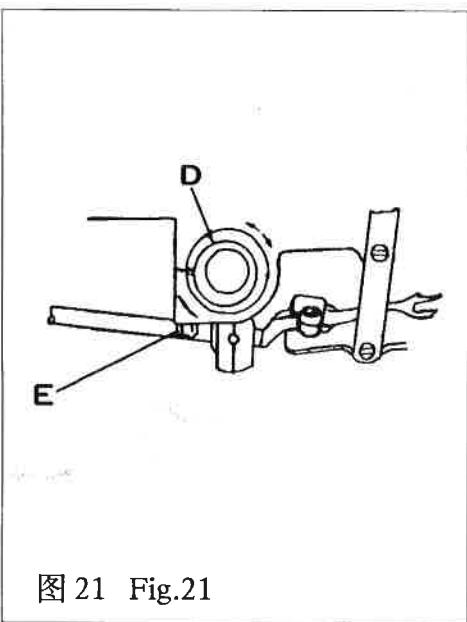

图 21 Fig.21
①旋松紧固螺栓“E”，左右移动偏心支承套“D”，达到上述要求时，旋紧紧固螺栓“E”(图21)。
①Loosen set bolt "E", move the eccentric supporting sleeve "D" rightward and leftward, and tighten the set bolt "E" (Fig.21)
①旋松紧固螺栓 “E”(图 21),周向转动偏心支承套 “D”，使钩线叉在右端时达到上述要求。
①Loosen set screw "E" (Fig.21) and turn the eccentric supporting sleeve "D" so that when the thread hook is at the right end may comply with the above-said requirements.